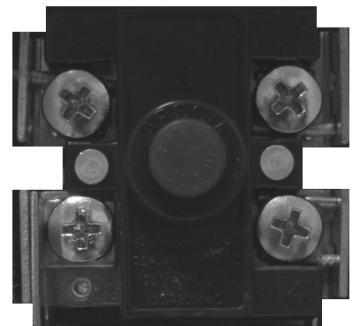

Figure 9 - ECO
- Press the red ECO reset button See figure 9, this page).